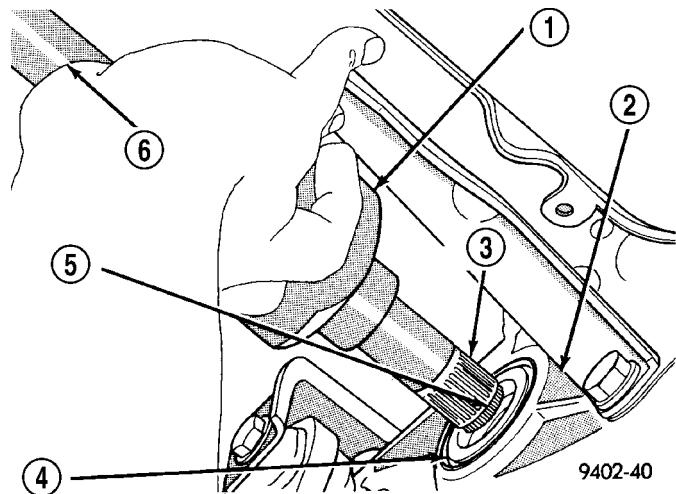

Fig. 11 Tripod Joint Removal from Transaxle
(12) Hold inner tripod joint and interconnecting shaft of halfshaft assembly (Fig. 11). Remove inner